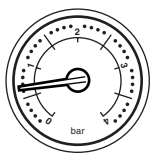

Fig. 8
2. With the system cold and the boiler not operating the pressure should be between 0.5 and 1.0 bar. During operation the pressure should not exceed 2.5 bar, and will normally be between 1.0 and 2.0 (Figs. 8 & 9).